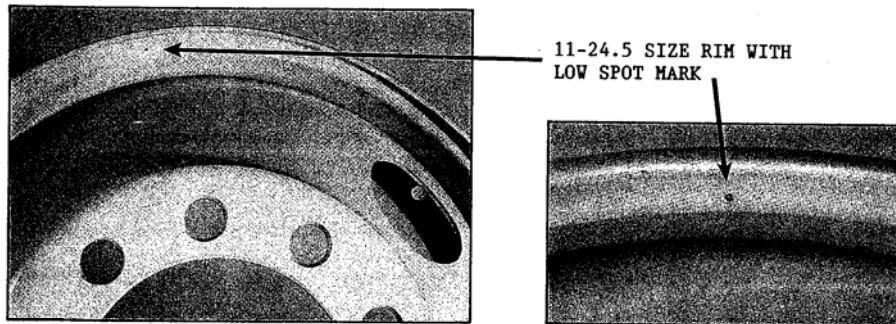

Figure 3
- Medium truck (20" and larger) steel tubeless disc wheels have a "dimple" or small indentation (or nick) at the low spot (see Figure 3 on attachment). If the "dimple" method is used, the rim will exhibit a round dimple approximately 1/4" diameter in size which is pressed into the exposed rim surface under the bead flange area on the valve hole side.